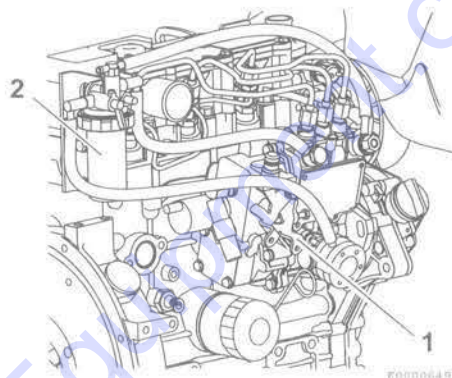

Figure 2
1. Operate the fuel priming lever (1, **Figure 2**) several times until the fuel filter cup (2, **Figure 2**) is filled with fuel.